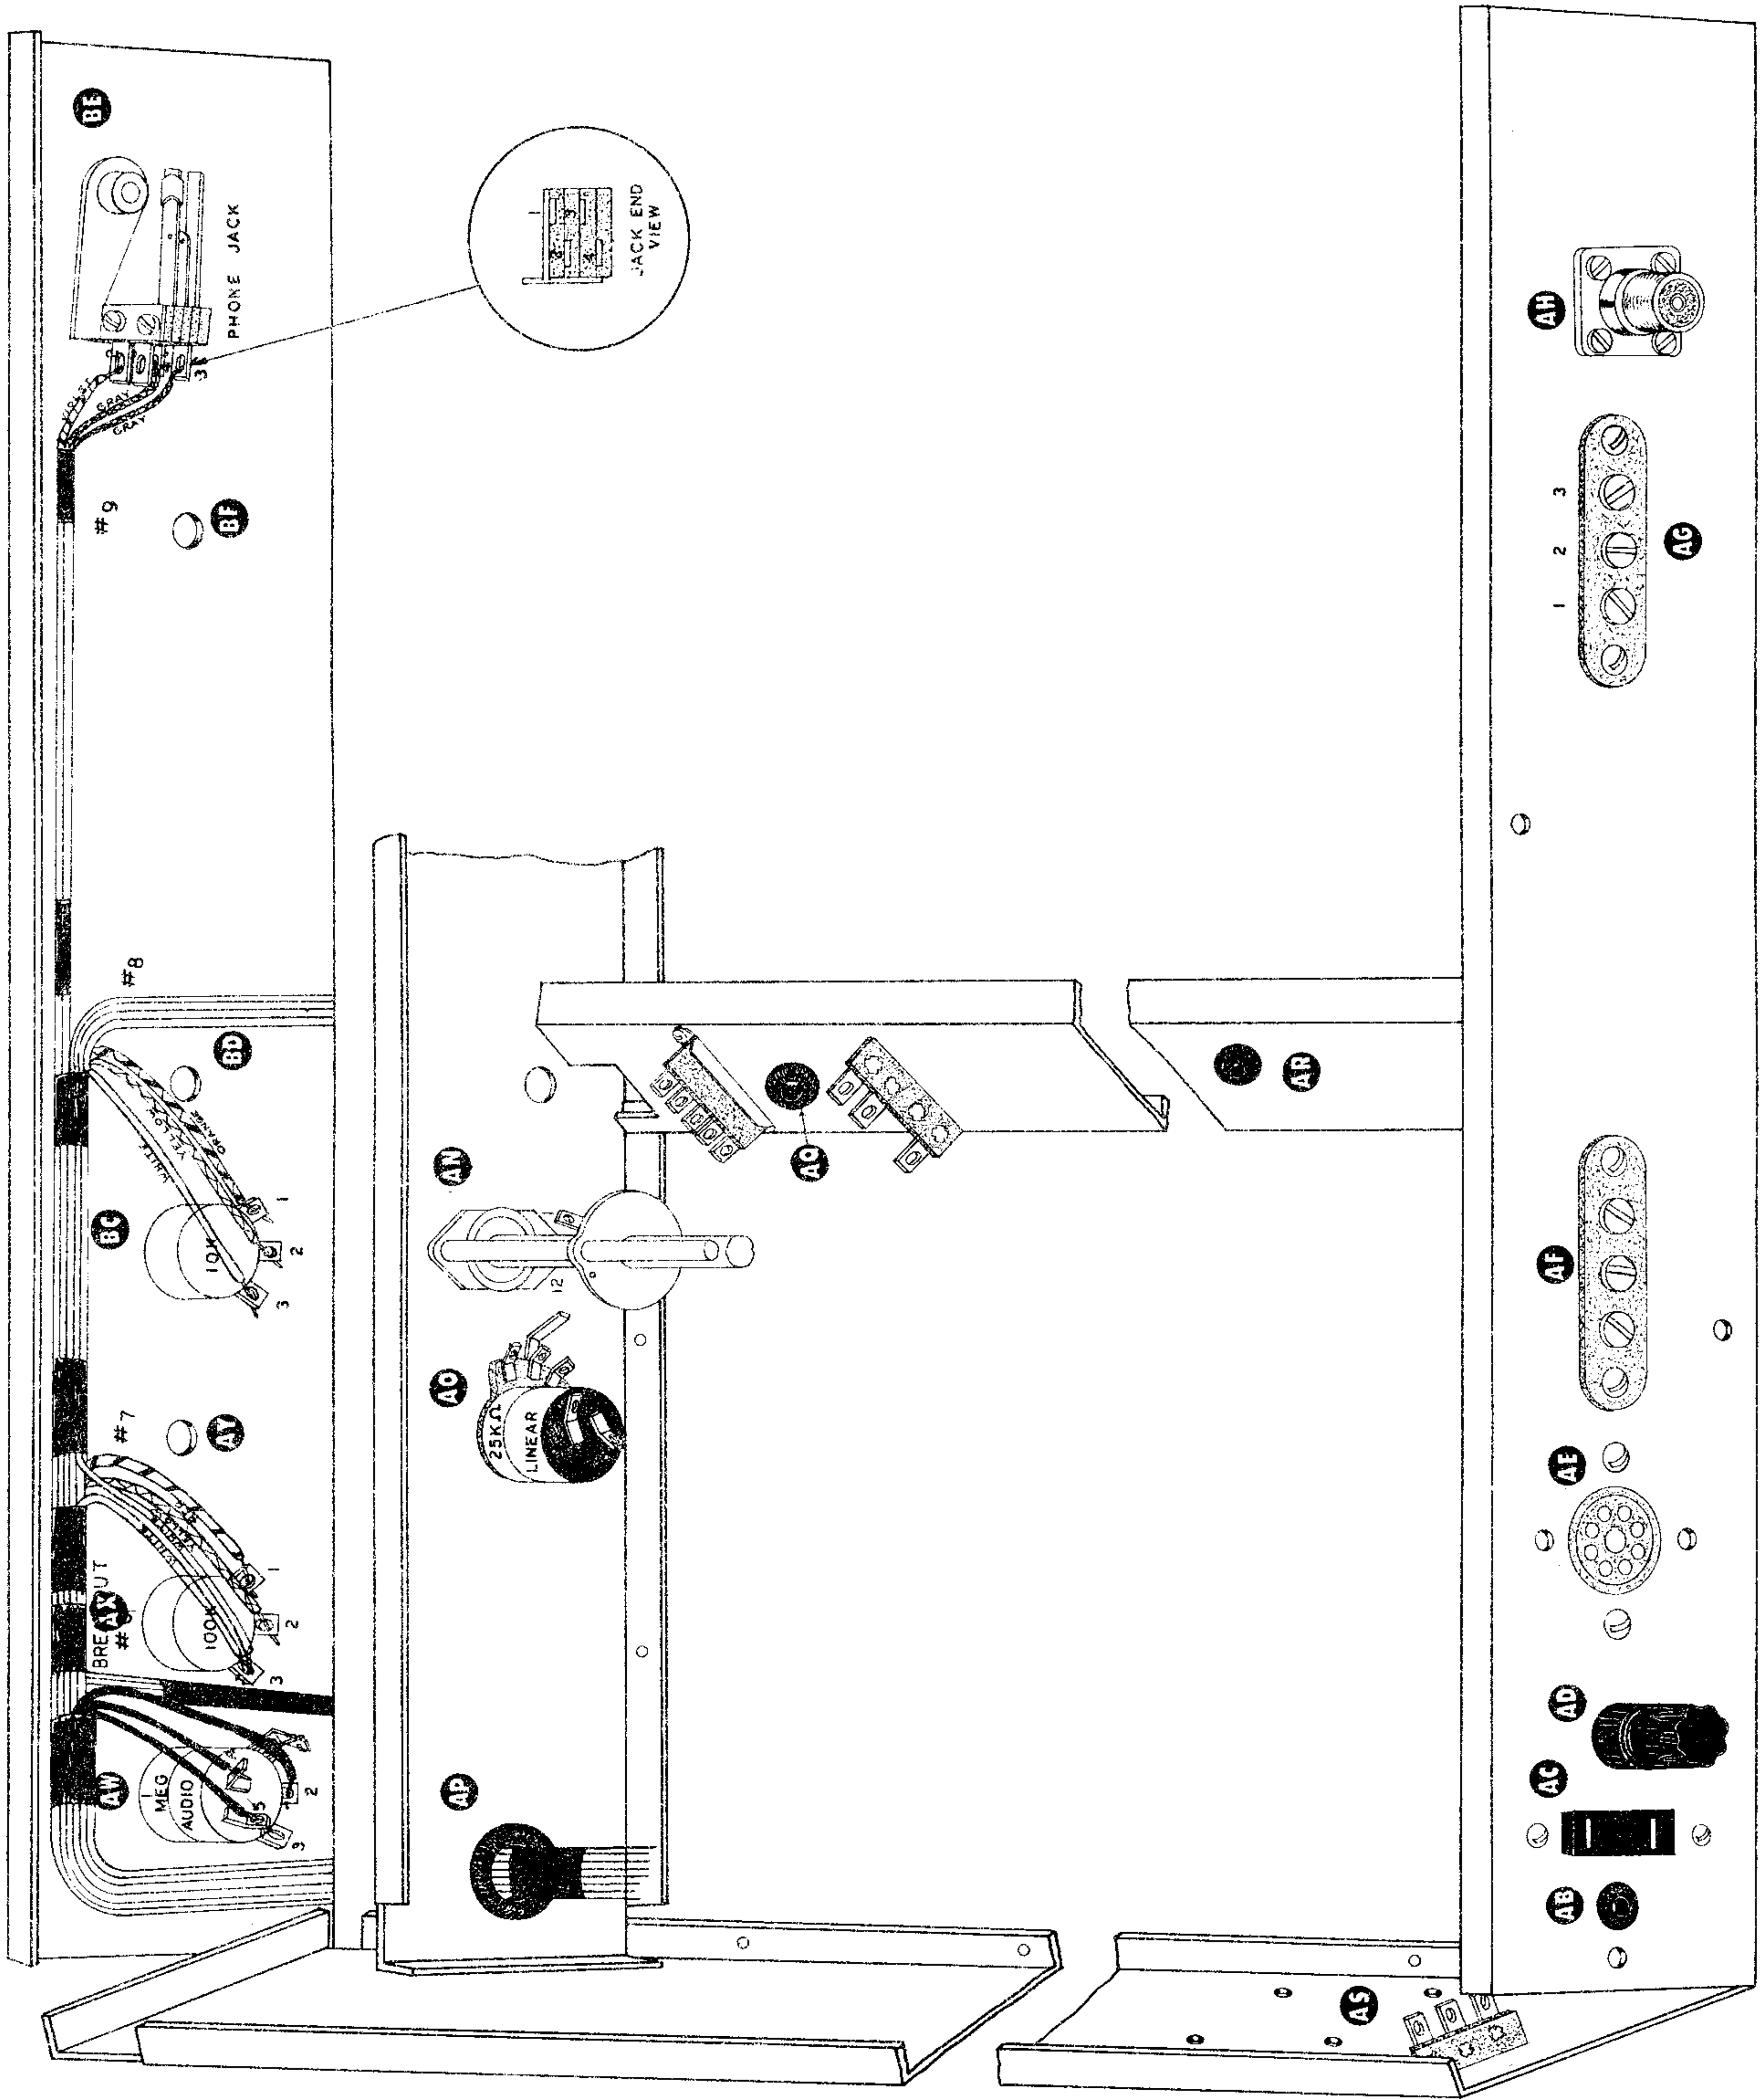

Figure 5
- ( ) Place the main frame on the work bench with the bottom up. The bottom of the frame is readily identified by the triangular metal braces spot welded in each of the four corners. Orient the frame so that the metal partition is running lengthwise of the unit as shown in Figure 5.
- ( ) In hole AC, place the 110 volt 2 prong AC socket; fasten in place with 6-32 hardware. Refer to Figure 5.
- ( ) Install the 3-lug terminal strip (use 6-32 hardware) in hole AF. This strip is installed from the outside as shown in Figure 5 and Pictorial 3.